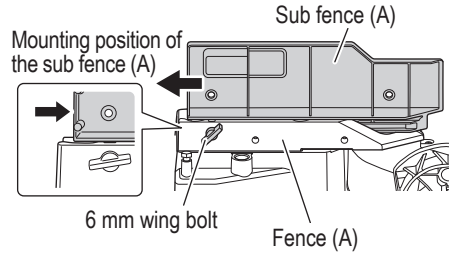

Fig. 19
When right bevel angle cutting, loosen the 6 mm wing bolt, then slide the sub fence (A) outward and remove it as shown in Fig. 19. Failure to do so may result in the main body or saw blade coming into contact with the sub fence (A) and causing injury.
In the case of direct angle cutting and left bevel angle cutting, slide inward to the position where the sub fence (A) hits, and secure it with 6 mm wing bolt. (as shown in Fig. 19)